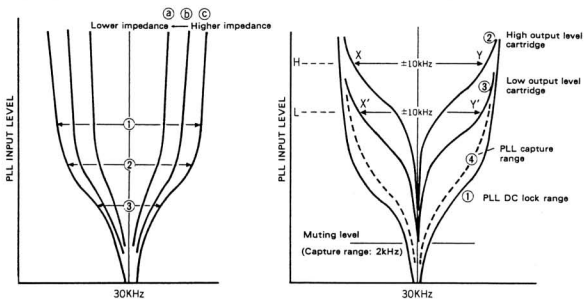

Figure 13. PLL Input Level vs. Lock Range
3. When the reproduced wave form becomes a sine wave (Figure 13) irrespective of the R001 position, FET X209 may be regarded as being open.
4. Since the rectangular waves at PLL IC pin (4) and pin (5) and the triangle wave at pin (9) are oscillation signals from VCO, they are the unmodulated 30kHz signals when no input is applied. When these waves are not formed, the IC may be defective. However, the wave forms will be out of shape if the measuring system has a large capacity.
The operation of the difference signal demodulation circuit will be explained taking the left channel of the Model CD-400 demodulator as an example (see attached circuit diagram). The 30kHz carrier modulated by the difference signal is transmitted to X201 after having been amplified by the 1/2 equalizer. The base circuit of X201 incorporates an active high pass filter with 20kHz cut-off which removes the sum signal at 12dB/oct. The sum signal component which was left unremoved here can be removed by the highly selective PLL which was designed so as to be locked only to the carrier component. There is an attenuator formed by R211 (=15 kohms) and R217 (=560 ohms) at the PLL input. The gain between PHONO input and PLL was designed to be 25dB. X207 is a control signal amplifier stage and has, at its input, a variable resistor (R001) for 30kHz level adjustment and a high pass filter. R001 is used to obtain one of the curves (2) or (3) in Figure 13 according to the cartridge used. The control signal of the FET forms a negative voltage which is rectified after amplification by X207. The source-drain resistance R_{DS} becomes open at a gate voltage of -1.5V. Starting at this voltage, the negative voltage becomes smaller as the input signal decreases.